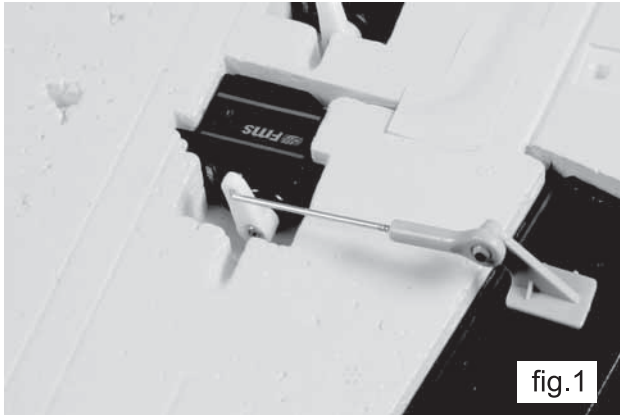
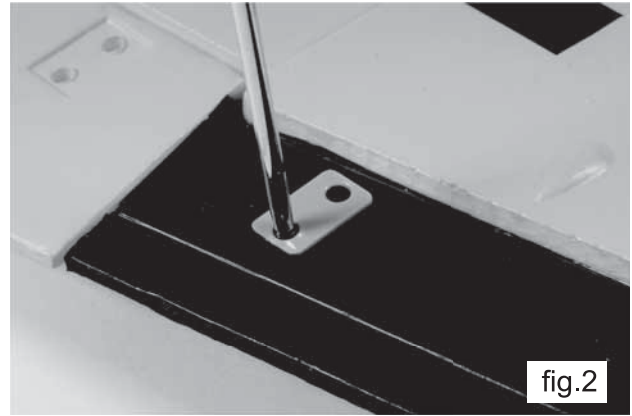

fig.1
fig.2
- 2) Insert the control horns into the holes in the bottom surface of each aileron, with the horn pointing towards the hinge line of the wing (fig. 1). Place the control horn backing plate on the top side of the aileron surface. Using the provided screws, secure each control horn from the backing plate side. (fig. 2)